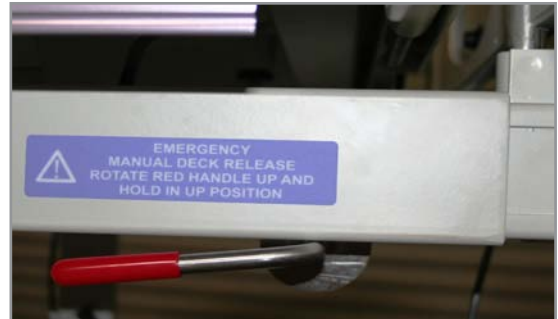

Figure 3
1. The quickest way to lower all Mattress Support Platform parts is to power down with Pendant-controlled Actuators. **Note:** To lower bed in case of power and battery backup failure, use Emergency Manual Mattress Support Platform Release to lower Head and Foot Mattress Support Platform sections (Figure 3).